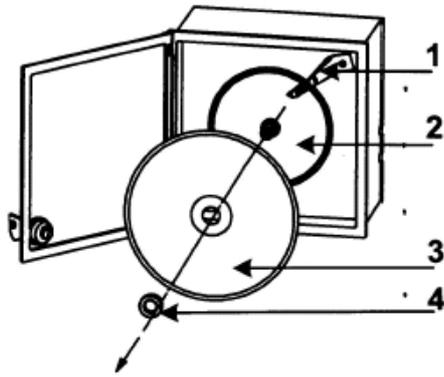

Fig.11
5.4.1 Changing of the paper chart (Fig.11)